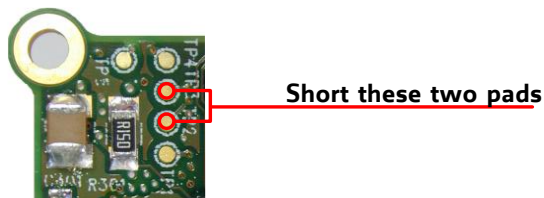

Figure 4.1 Reset to factory default settings
For this procedure two pads on the bottom side of the board have to be shortened (see Figure 4.1).
2. Short two pads as marked in Figure 4.1